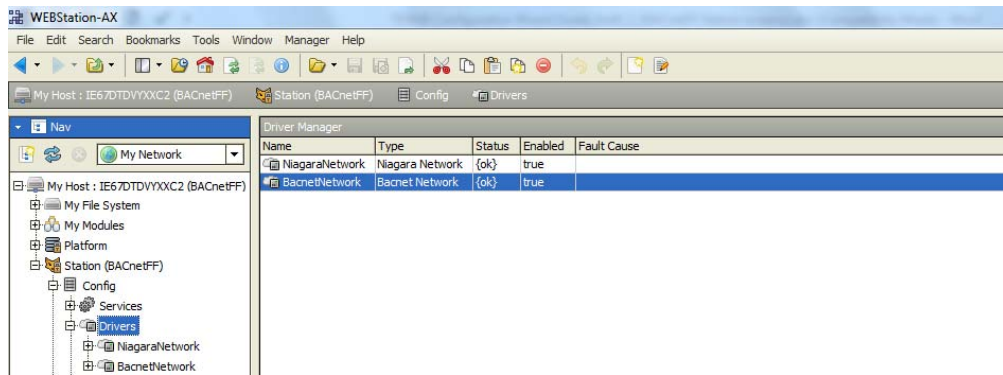

Fig. 21. Newly added BACnet Network
- A newly added 'BacnetNetwork' can be seen under 'Device manager' on the right pane highlighted in Amber color as shown in Figure 21